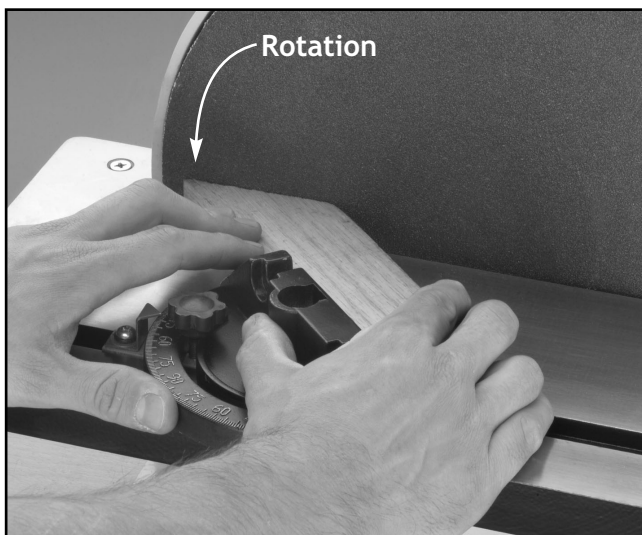

Figure 11. Mitering with gauge angled.
3. Slide the workpiece along the face of the miter gauge into the left side of the sanding disc as shown in **Figure 11**.